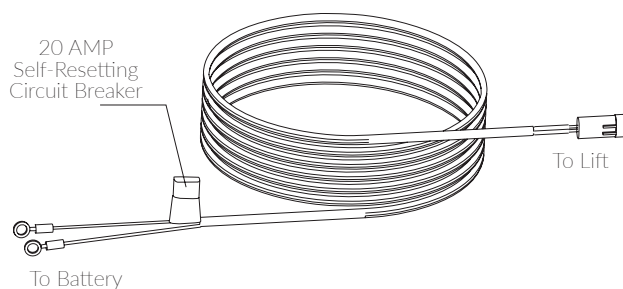

Figure 4-1
1. Unwind the wiring harness and lay it flat. The lift end of the harness has a black connector. This black connector goes to the trailer hitch area where the lift will mount. **See Figure 4-1.**